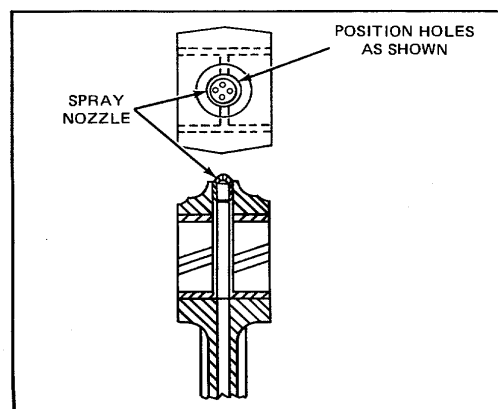

Figure 6. Position of Spray Nozzle Holes
6. Start the new spray nozzle, with the holes positioned as shown in Fig. 6, straight into the counterbore in the connecting rod.